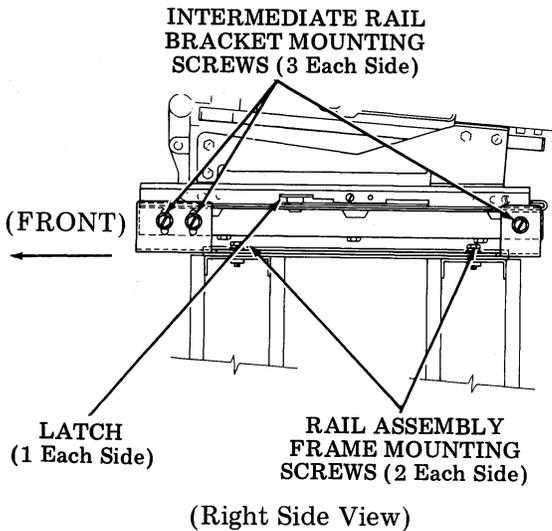

Fig. 58
- ④ If adjustment is required to meet the requirements of ⑤ and ⑥, with the printer positioned and latched in its rearmost location on the rail assembly frame, loosen the four rail assembly frame mounting screws friction tight. See Fig. 58.